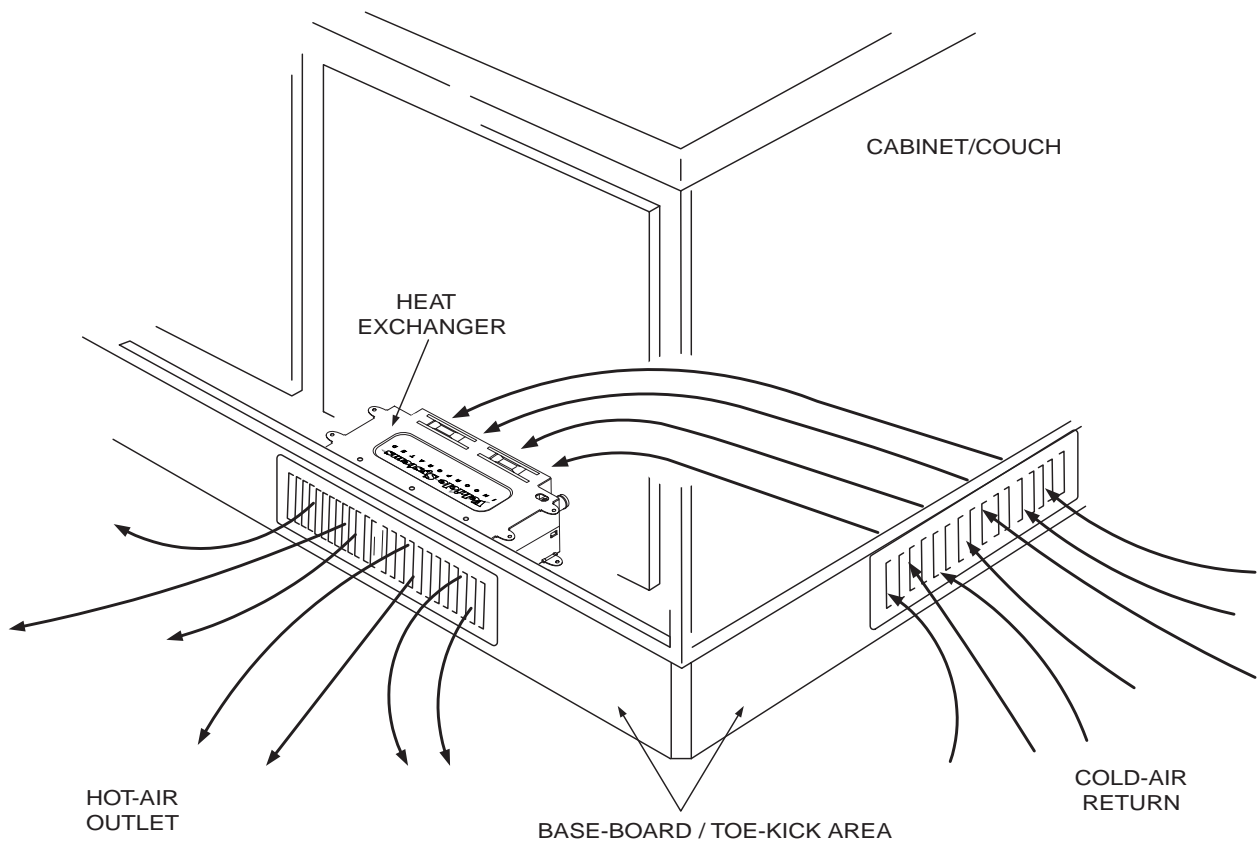

Figure 7
1. Cut out an opening of 2.5 in. x 10 in. for each Cozy-III hot-air outlet and cold-air return Register, see Figure 7
3. Install the hot-air outlet and cold-air return Registers, see Figure 7.
Once a permanent mounting location for the Fresh Water Tank Heat Exchanger has been selected, fasten down the Heat Exchanger permanently into place. Please reference Section 3.4 and use Figures 7, 8, 9, 10, 11 and 12 for mounting information.